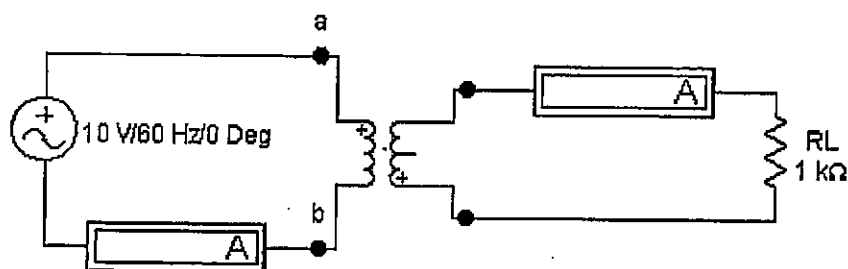

Fig 13.2
- 6- Connect the circuit shown in Figure 13.2, with a load resistor of 500 ohm.